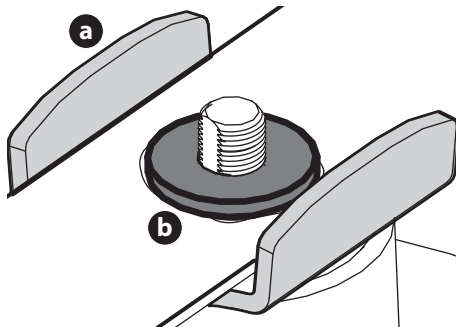

Fig. 46
1. Place blade shield (a) on the spindle shaft (Fig. 46).
3. Carefully place the flat washer (b) on the spindle shaft. Line up flat sides of washer with flat sides of spindle shaft (Fig. 46).